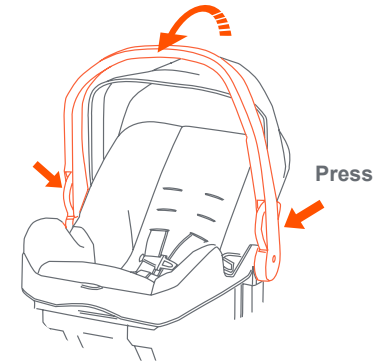

Fig. 14c
**NOTE:** Set handle to the carry position (Fig. 14c).